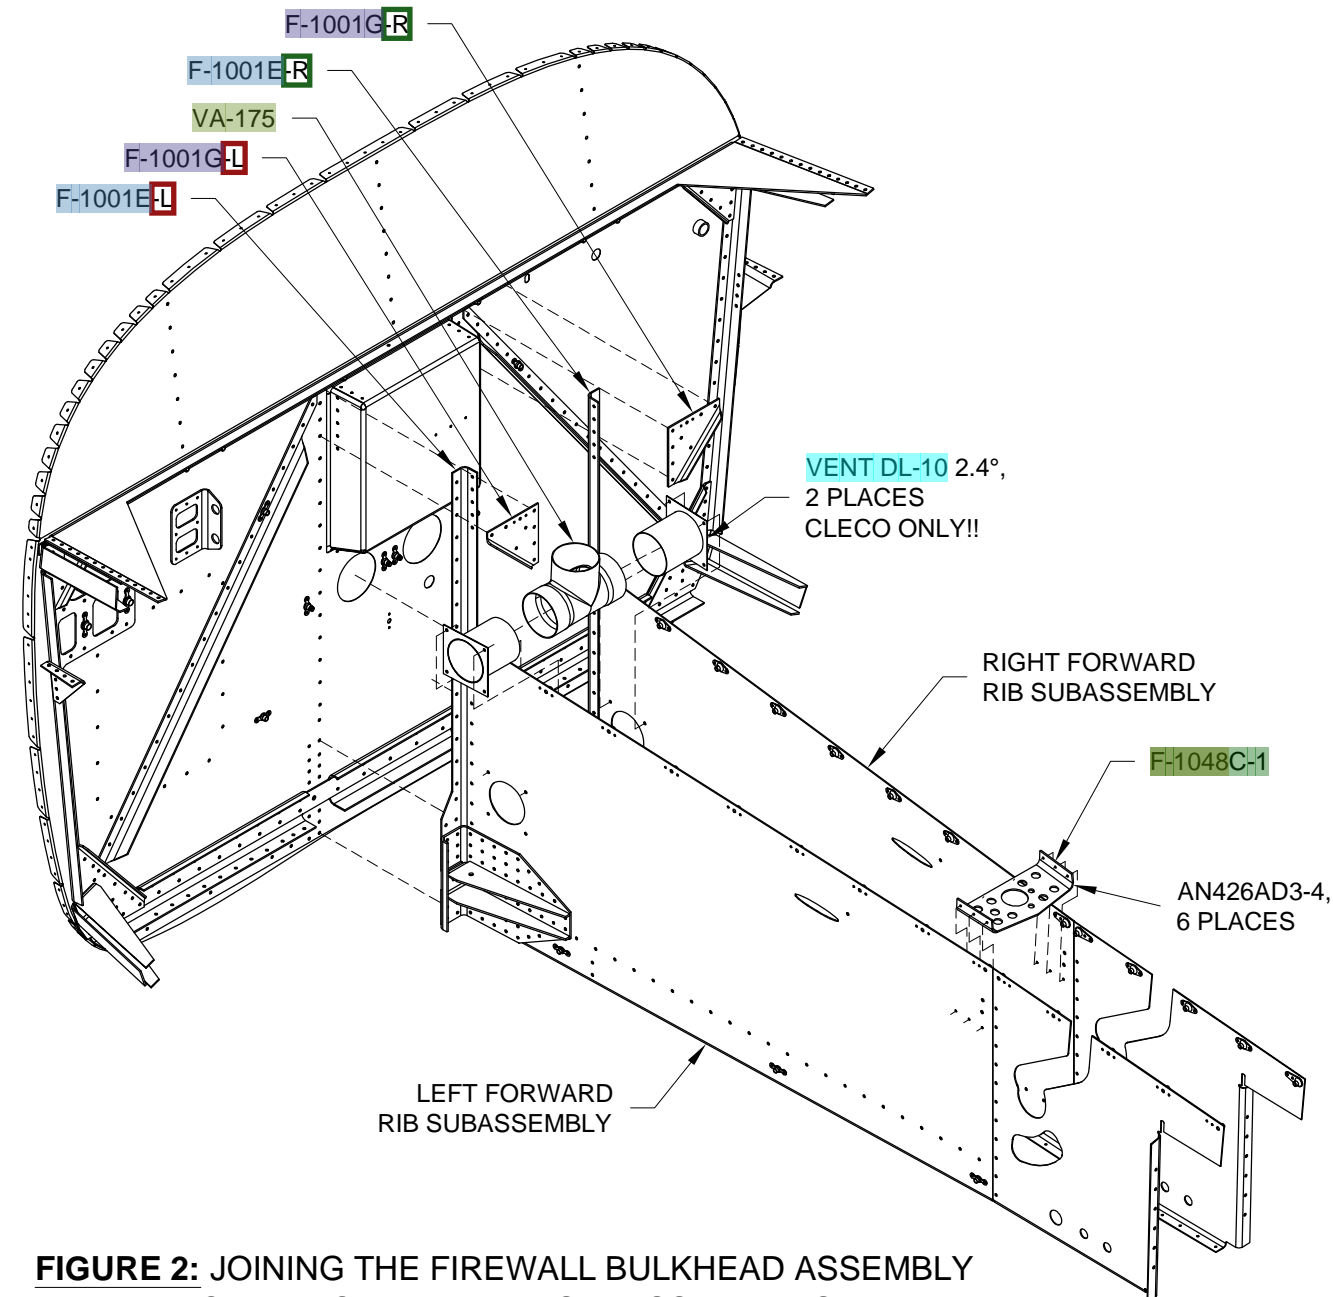

FIGURE 2: JOINING THE FIREWALL BULKHEAD ASSEMBLY TO THE FORWARD RIB SUBASSEMBLIES
Step 8: Rivet the Left and Right Forward Rib Subassemblies and **F-1001G-L** and **R** Gussets to the Firewall Bulkhead Subassembly per the callouts in Page 27-5, Figure 1. Rivet the **F-1048C-1** Fuel Valve Bracket to the the fwd fuselage ribs per the callouts in Figure 2. Insert the **VENT DL-10 2.4°** Flanged Ducts into the **VA-175** Heat Duct Tee, then cleco the flanged ducts to the fwd fuselage ribs per the callouts in Figure 2.